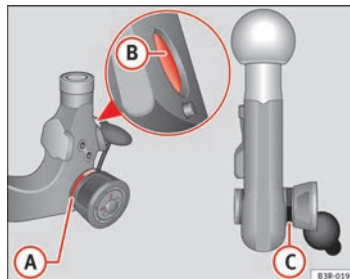

Fig. 168 Removable towing bracket: Ball joint
- Check that the red marking **(A)** ⇒ Fig. 168 on the knob is inside the black zone marked on the ball joint.